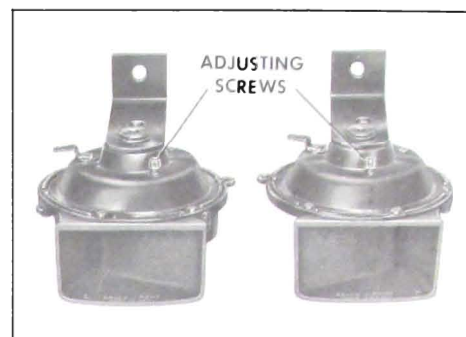

Figure 10-56—Matched Horn Set
3. Adjust to specified current draw if necessary, by turning adjusting screw clockwise to decrease or counterclockwise to increase current draw. Turn only 1/4 of a turn at a time. If adjustment loosens screw excessively, it may be staked with a prick punch. See Figure 10-56.